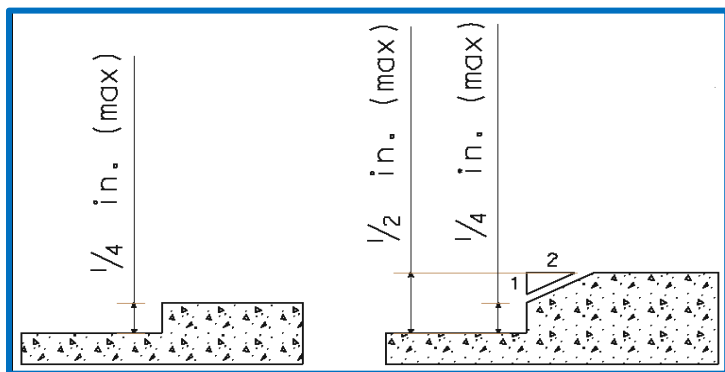

Figure 6 Surface Discontinuities
- Surface discontinuities must not exceed  $\frac{1}{2}$  inch maximum. Vertical discontinuities between  $\frac{1}{4}$  inch and  $\frac{1}{2}$  inch should be beveled at a maximum of 2:1 or flatter, and bevels should be constant across the entire level change. New surfaces must not have vertical surface discontinuities. Curb ramps, landings, and gutter areas must not have surface discontinuities. (See Figure 6.)